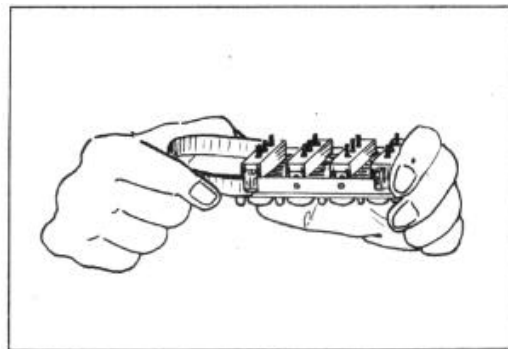

FIGURE 163
2. Depress the unit spring retaining clips with tool KMO-685 while pressing in on the control knob, Figure 163.